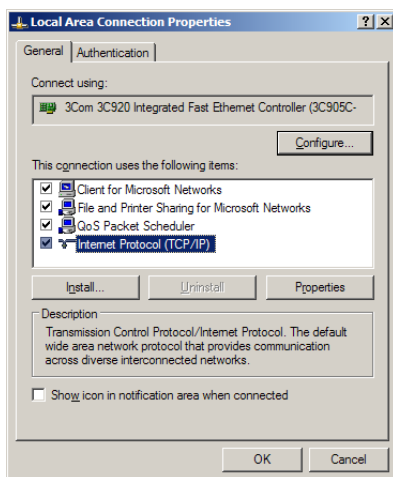

Figure 6-2 Local Area Connection Properties
4. Highlight the “Internet Protocol (TCP/IP)” item in the list, and click on the “Properties” button. Refer to Figure 6-2.